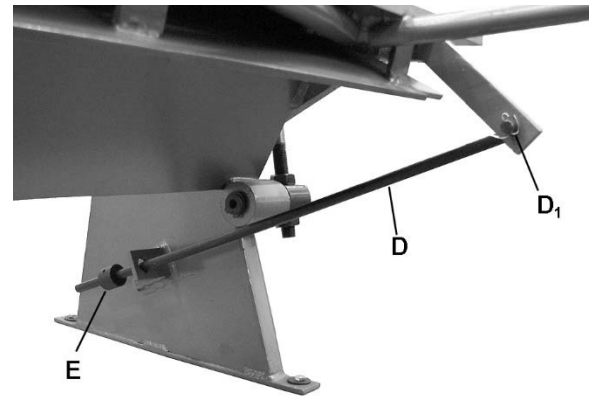

Figure 3
5. Install stop rod (D) through hole in weldment, as shown in Figure 3. Insert cotter pin (D₁) at end of rod, and bend the ends to secure. Install stop collar (E) at opposite end and tighten set screw.
Adjust stop collar on stop rod (Figure 3) to limit apron swing.